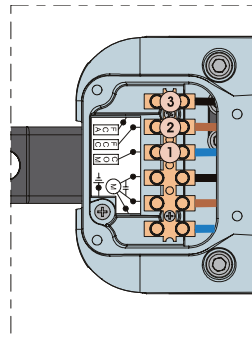

Fig. 22
- 3) Insert the cable and connect it to the terminals observing the colours specified in the table of Fig.22.
- During the wiring operations, observe the wire colours as specified in the table of Fig.22.